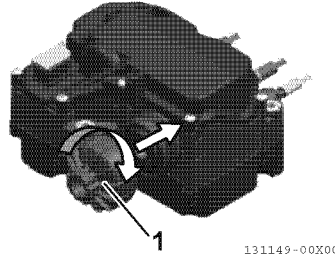

Fig.25-49
- 11 - Tighten the main filter cover (1, Fig.25-49) to the specified torque using the specified tool (27 mm wrench: DIN 3124 / ISO 2725-1).